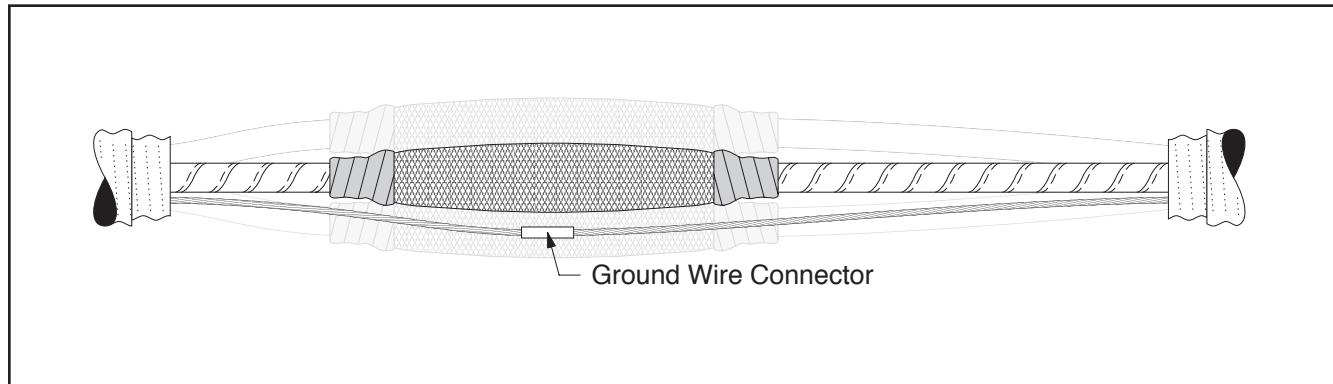

Figure 18
2.9 Connect ground wires using an appropriate connector (Figure 18).